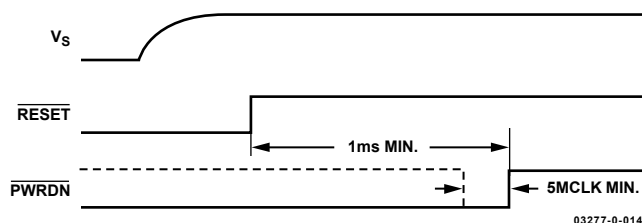

Figure 29. Power-Up Sequence for Tx Data Path
On initial power-up, the $\overline{\text{RESET}}$ pin should be held low until the power supply is stable (see Figure 29). Once $\overline{\text{RESET}}$ is deasserted, the AD9878 can be programmed over the serial port. The on-chip PLL requires a maximum of 1 ms after the rising edge of $\overline{\text{RESET}}$ or a change of the multiplier factor (M) to completely settle. It is recommended that the $\overline{\text{PWRDN}}$ pin be held low during the reset and PLL settling time. Changes to ADC Clock Select (Register 0x08) or Sys Clock Divider N (Register 0x01) should be programmed before the rising edge of $\overline{\text{PWRDN}}$. Once the PLL is frequency locked and after the $\overline{\text{PWRDN}}$ pin is brought high, transmit data can be sent reliably. If the $\overline{\text{PWRDN}}$ pin cannot be held low throughout the reset and PLL settling time period, then the Power-Down Digital Tx bit or the $\overline{\text{PWRDN}}$ pin should be pulsed after the PLL has settled. This will ensure correct transmit filter initialization.